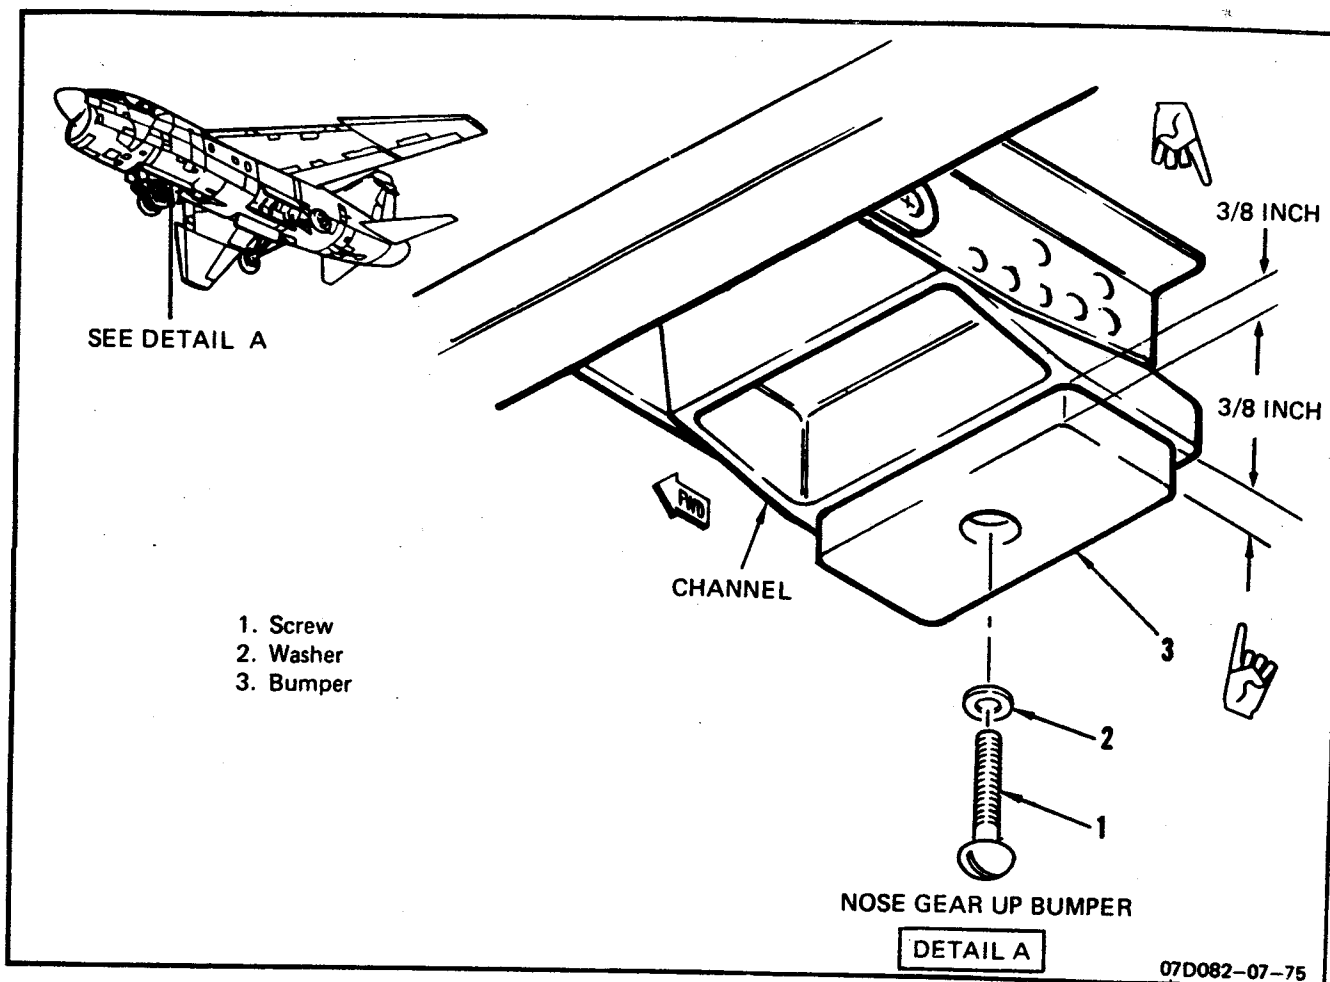

Figure 1-29. Nose Gear Up Bumper Removal and Installation
1-97. REMOVAL. (See figure 1-29.)
1-98. INSTALLATION. (See figure 1-29.)
a. Temporarily position bumper (3) in channel.
c. Trim face of bumper to obtain dimension shown in figure 1-29.
f. Secure bumper (3) in channel with washer (2) and screw (1).
g. Recheck dimension in figure 1-29. If not within tolerance, trim additional material from face of bumper (3).